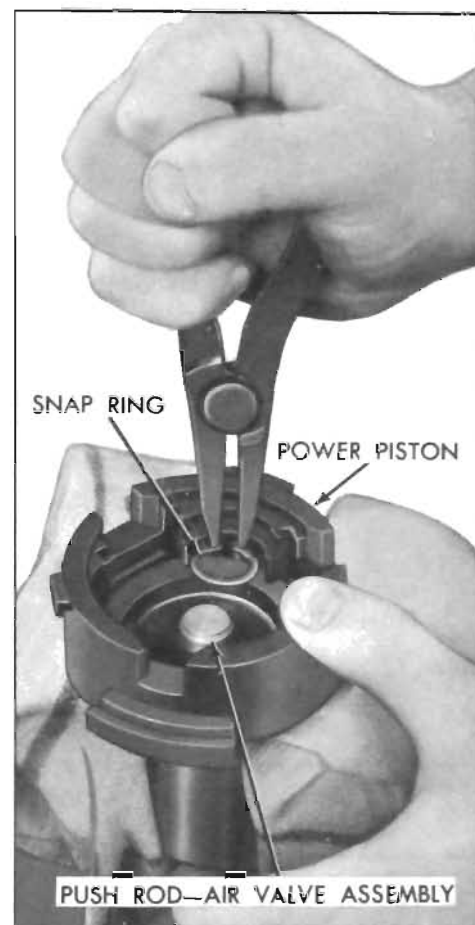

Figure 9-26—Removing Power Piston Snap Ring
9. Use Truarc Pliers #2, or KM J-4880, to remove the snap ring on the air valve. See Figure 9-26.